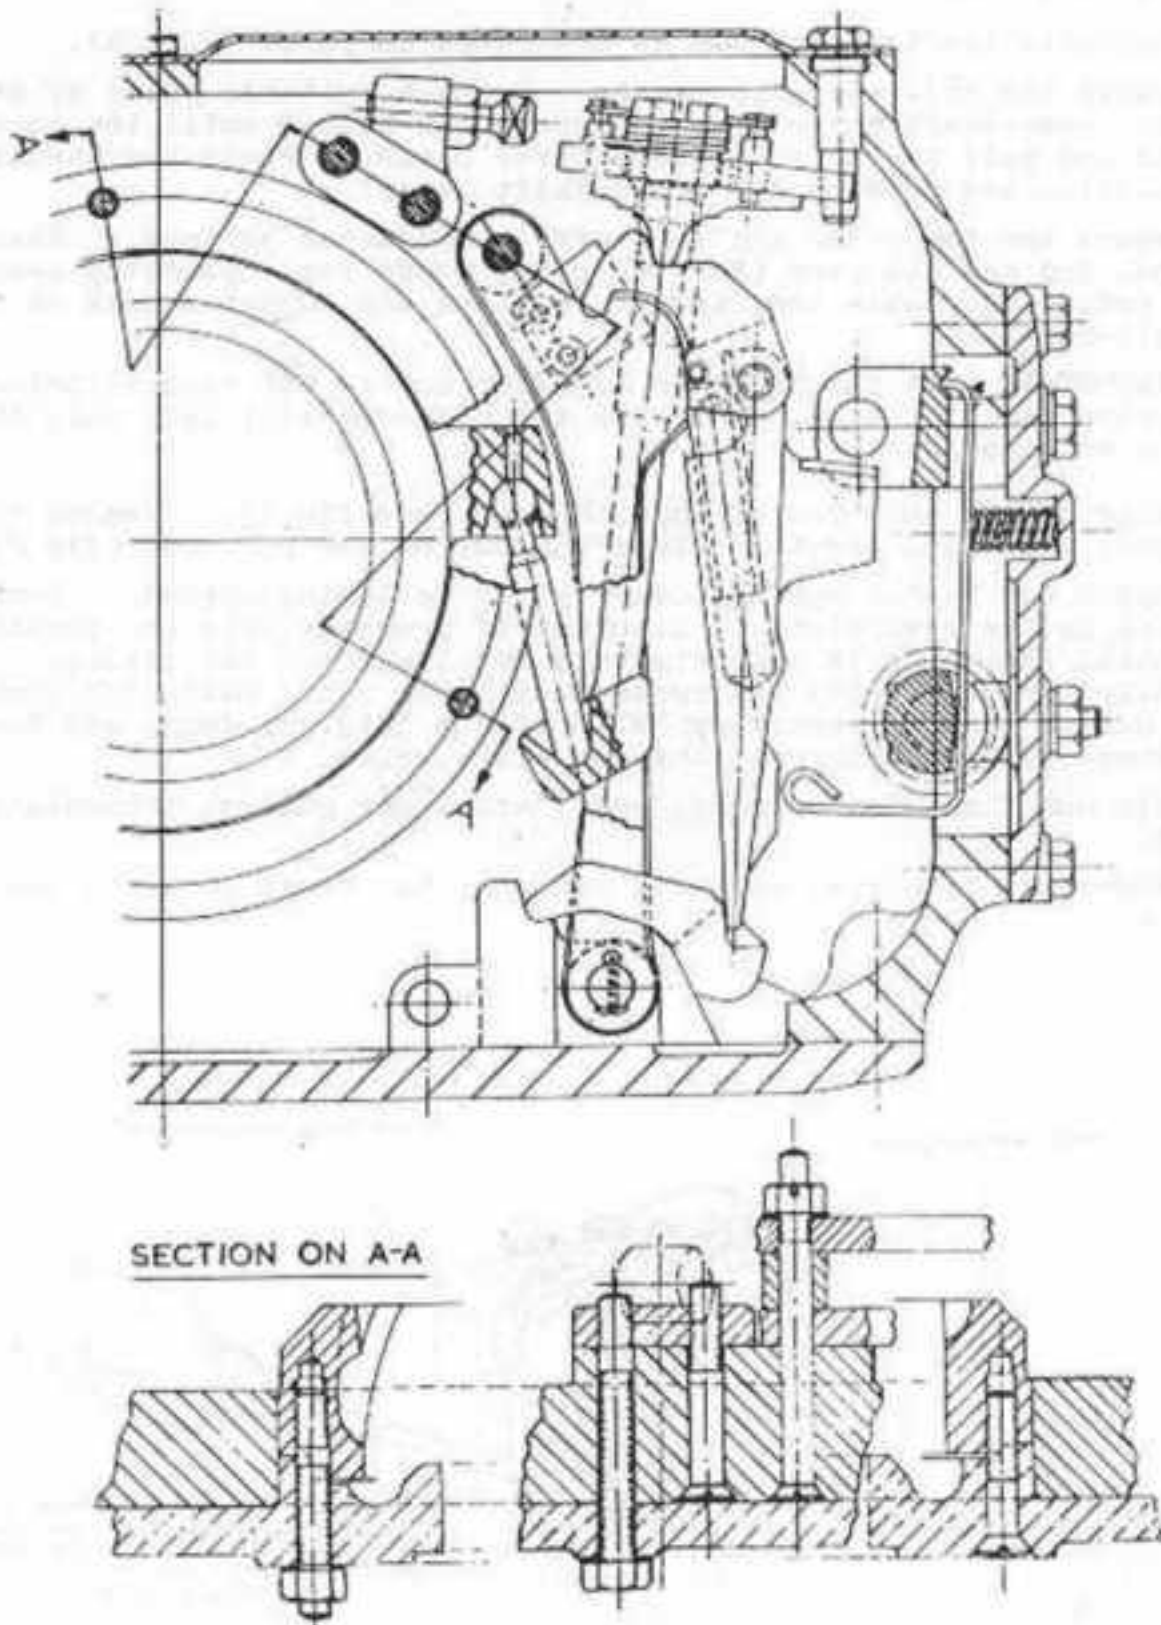

FIG 2 - GEARBOX - GENERAL ARRANGEMENT OF CLUTCH OPERATING GEAR ON THE 5TH SPEED (TOP)
5. a. Lever up the pull-rod of the 5th gear (see fig 3). Remove the adjuster nut, ring, table and strut, replace the nut on the pull-rod (fig 2).
- Remove the 5th gear hook split pin, nut, spacer and csk hd screws from the front of the gearbox (fig 2).
- On the casing, check the 5th gear adjuster bracket. If secure, do not disturb, but renew the adjuster screw if necessary. The bracket is held by one hex hd screw and one csk hd screw, which must be tightened or replaced before the front cover is fitted as the latter covers the csk hd bolt (fig 2).